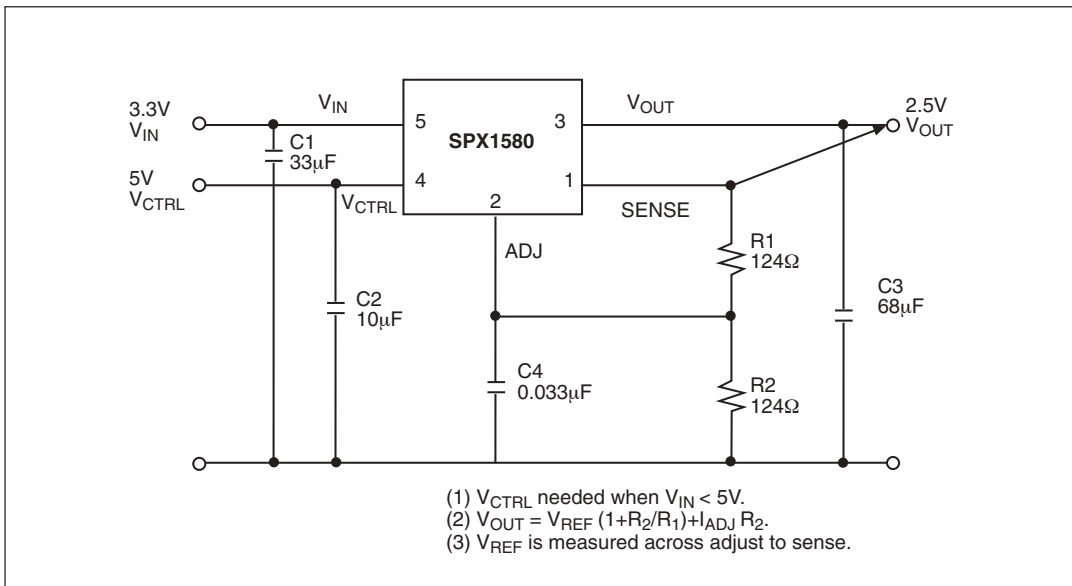

Figure 1. Adjustable Regulator.
1.25V reference voltage is being developed between the SENSE pin and the ADJ pin of the SPX1580. Adding two external resistors (see fig 1.) will allow setting the output voltage from 1.25V to 6V. R₁ is chosen so that this current is specified minimum load current of 10mA. R₂ is given by the formula: $V_{OUT} = V_{REF} (1 + R_2/R_1) + I_{ADJ} R_2$. The current flowing from the ADJ pin is typically 50uA. This ADJ pin contributes to the final V_{OUT} but is usually neglected. Connecting the sense pin to the top of the resistor divider will improve load regulation.